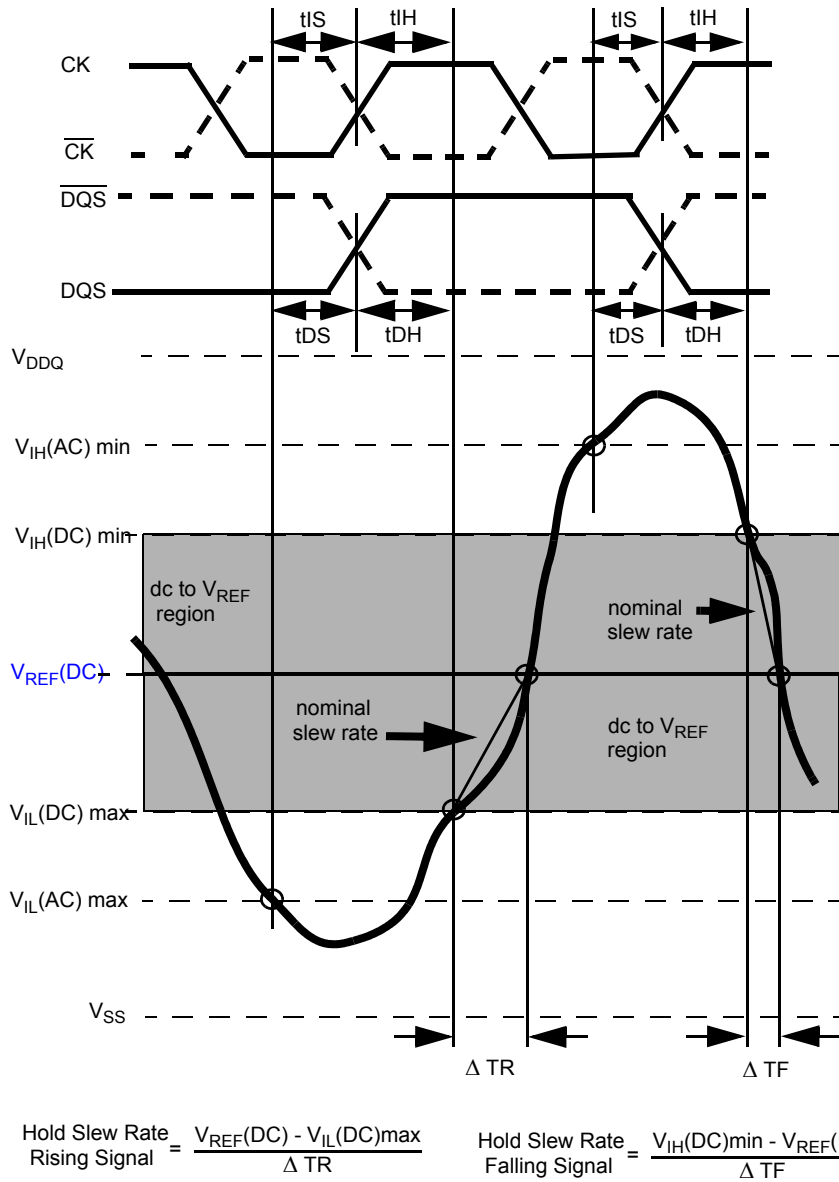
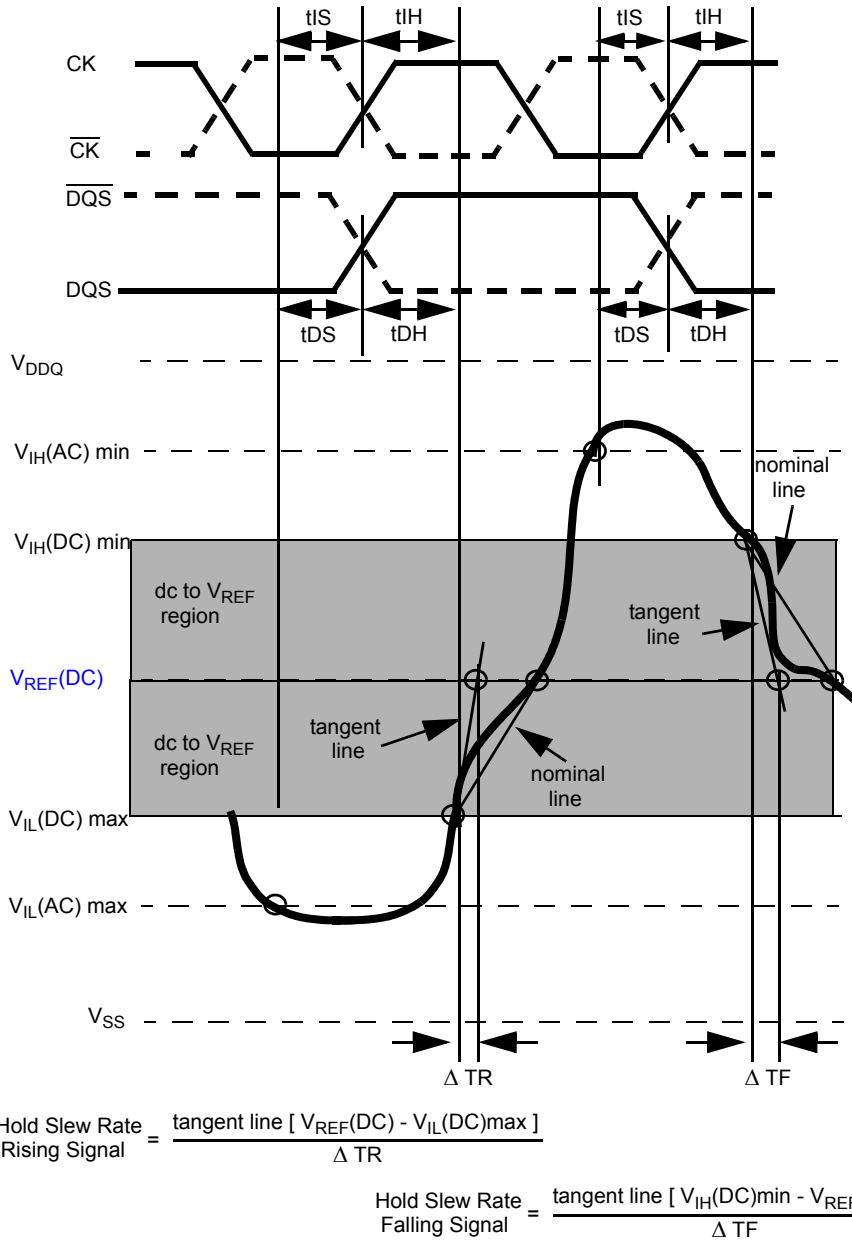

Figure 22. Illustration of nominal slew rate for hold time  $t_{DH}$  (for DQ with respect to strobe) and  $t_{IH}$  (for ADD/CMD with respect to clock).
Figure 24. Illustration of tangent line for hold time  $t_{DH}$  (for DQ with respect to strobe) and  $t_{IH}$  (for ADD/CMD with respect to clock)
Hold (tIH) nominal slew rate for a rising signal is defined as the slew rate between the last crossing of VIL(DC)max and the first crossing of VREF(DC). Hold (tIH) nominal slew rate for a falling signal is defined as the slew rate between the last crossing of VIH(DC)min and the first crossing of VREF(DC). If the actual signal is always later than the nominal slew rate line between shaded 'dc to VREF(DC) region', use nominal slew rate for derating value (see Figure 22). If the actual signal is earlier than the nominal slew rate line anywhere between shaded 'dc to VREF(DC) region', the slew rate of a tangent line to the actual signal from the dc level to VREF(DC) level is used for derating value (see Figure 24).